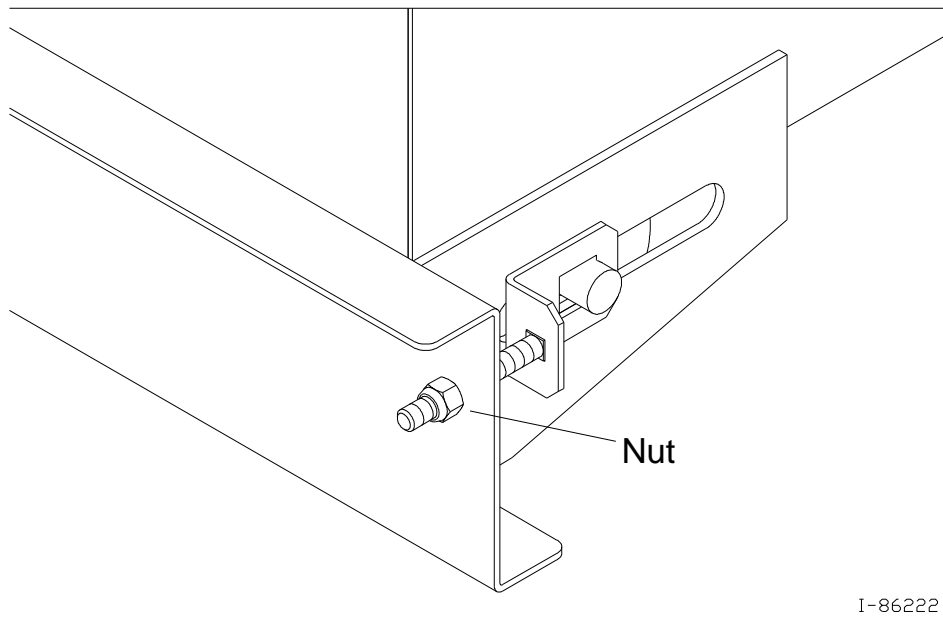

Figure 4A - Adjusting the Floor Apron Chain for Proper Tension
- Periodically check the floor apron chain for proper tension/tightness (refer to Figure 4A).
- Use a 9/16" wrench to tighten the adjustment nut on the lower left/right front of the spreader box as shown in Figure 4A. Observe the chain positioning with respect to the floor/apron.